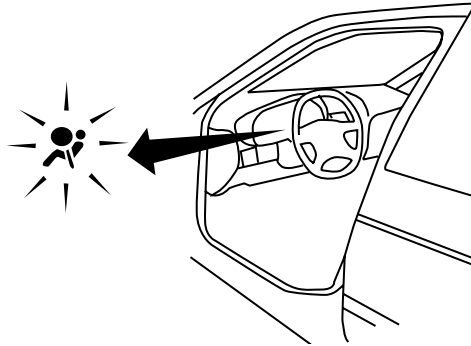

Figure 14-21 AIRBAG warning lamp
2. After the AIRBAG warning lamp (Figure 14-21) lights for 7 seconds, turn ignition switch off within 1 second.